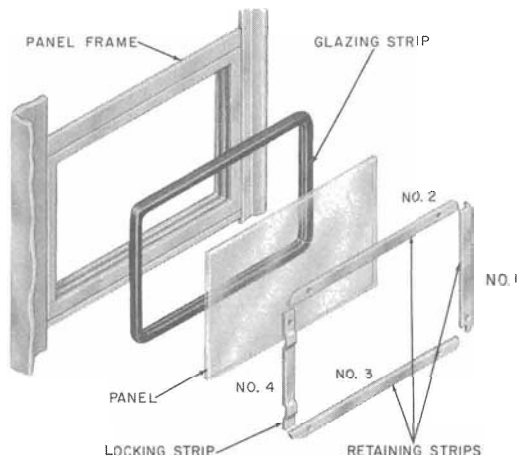

Fig. 22—Assembly of Side or Rear Panels
4.08 Booth panels and signs are held in place by four interlocking retaining strips. They are inserted in sequence as shown in Fig. 22. The No. 4 strip is rippled and is held in place by interface friction.
- (1) Remove No. 4 locking strip.
- (2) Remove retaining strips No. 2 and 3.
- (3) Remove retaining strip No. 1.
- (4) Remove panel and rubber glazing strip.
- (5) Apply rubber glazing strip to replacement panel.
- (6) Insert panel into frame with the beaded edge of glazing strip on the outside.
- (7) Replace retaining strips in sequence as shown in Fig. 22.
- 4.13** After roof is removed, the side and rear signs are removed in the same manner as the side panels (see 4.09 and Fig. 22).
**4.34** Replace glass panels in similar manner as side panels (Fig. 22).